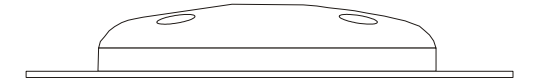

Figure 4: User-Supplied Antenna (ANT-35C50P1GLA-TW-N Example Shown)
- A quality GNSS antenna, such as our ANT-35C50P1GLA-TW-N (see *Figure 4*)